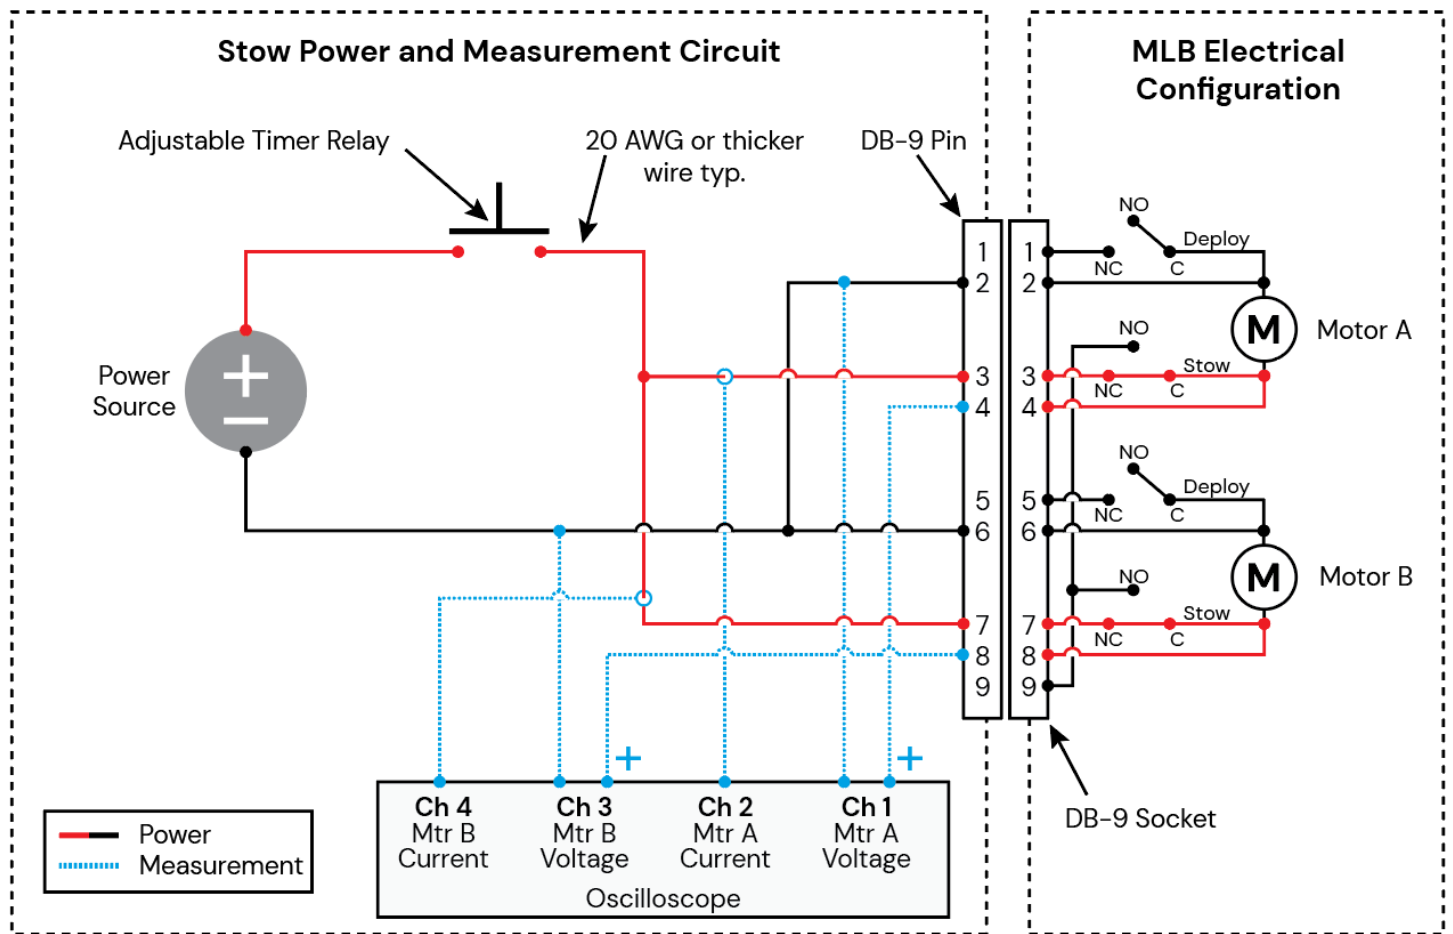

Figure 9-4: Stow circuit
9.4.1	Verify the DE-9 pin connector of the Stow Power and Measurement Circuit in Figure 9-4 is visibly clean. Any debris could detrimentally contaminate the Lightband's mating socket connector.
9.4.2	1) Ensure power source output is off. 2) Connect the Lightband to the Stow Power and Measurement Circuit per Figure 9-4.
9.4.11	Disconnect the Stow Power and Measurement Circuit in Figure 9-4 from the Lightband's DE-9 connector.